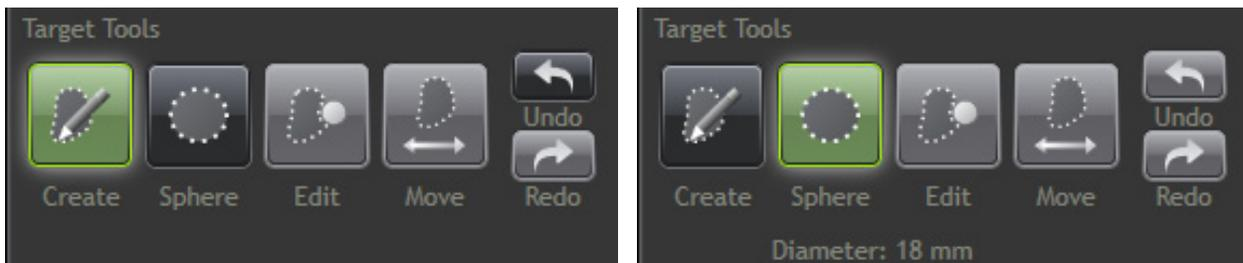

Figure 3-14: The Create or the Sphere Tool can be selected in the Target Tools panel.
4. In the Target Tools panel (Figure 3-14), click the **Create** or **Sphere** tool to define your target.
5. When the **Create** tool is selected (Figure 3-14) move the mouse pointer to a CT slice/image near the center of the targeted lesion; use the mouse scroll wheel to grow or reduce the segmented area. Once you are satisfied with the software-generated target, left-click to accept its shape and size.
7. When the **Sphere** tool is selected (Figure 3-14) move the mouse pointer to a CT slice near the center of the targeted lesion. Use the mouse scroll wheel to grow or reduce the sphere diameter. Left click to accept the size of the target.
15. Use the **Undo** and **Redo** buttons (Figure 3-14) to modify steps taken in creating and defining an ablation target.